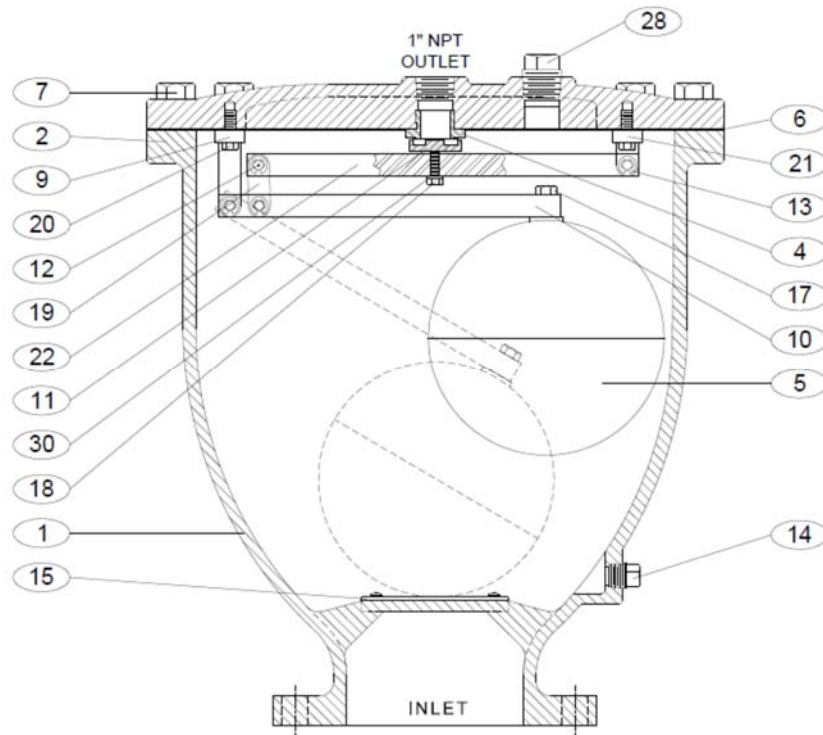

FIGURE 2. Compound Lever Air Release Valve
The standard Air Release Valve body and cover are cast iron. See the specific Materials List submitted for the order if other than standard cast iron construction. All internal components are stainless steel with the exception of the orifice button which is resilient. The general details of construction are illustrated in Figure 2. The body (1) is threaded for connection to the pipeline. The seat (4) is threaded into the cast cover (2).
All parts must be cleaned and gasket surfaces should be cleaned with a stiff wire brush in the direction of the serrations or machine marks. Worn parts, gaskets and seals should be replaced during reassembly. Refer to Figure 2 on page 2.